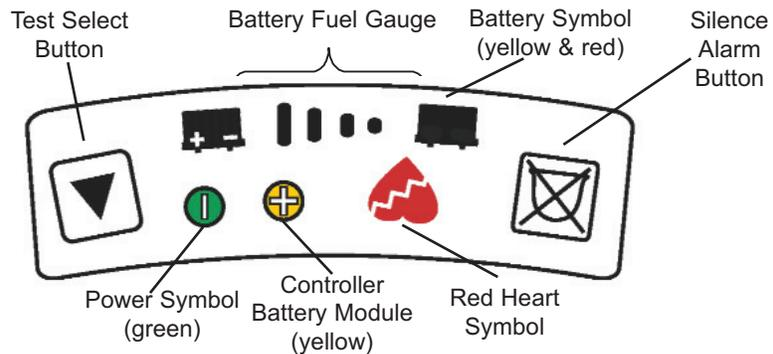

Figure 27 HeartMate II System Controller Keypad.
- 11 Press the battery release button to remove the 1st battery from its clip (**Figure 27**); repeat for the 2nd battery.
- 2 Press and hold the Test Select button on the System Controller keypad (**Figure 27**) for three seconds until all the lights come on and a steady audio tone sounds.